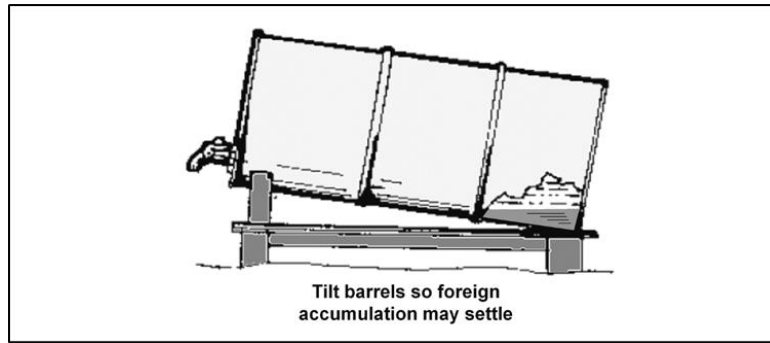

Figure 4-1. POL barrel storage
- Store barrels with outlet end slightly higher than the other end to allow sediment and water to settle out (Figure 4-1 on page 58). Avoid upright storage of barrels to keep water and snow from accumulating around the fill cap. The last few gallons that remain in the barrel should be dumped into collecting barrels where foreign accumulation can settle, and the usable fuel can be salvaged. Make sure all containers are thoroughly dry, clean, and rust-free before storing fuel in them.